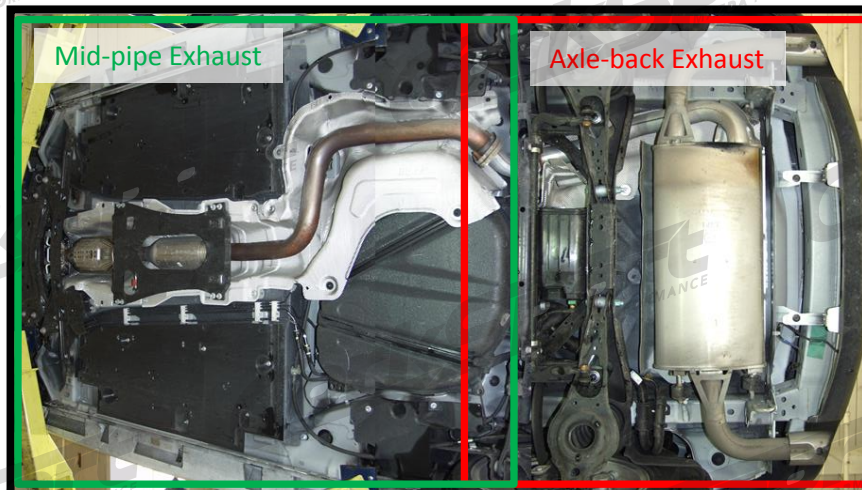

Figure 1a
- a) Use a floor jack and jackstands to gain access to the underside of the vehicle. Shown in Figure 1a.
- a) Use a floor jack and jackstands to gain access to the underside of the vehicle. You will need to access both the mid-pipe exhaust section and axle-back exhaust section. Shown in Figure 1a.